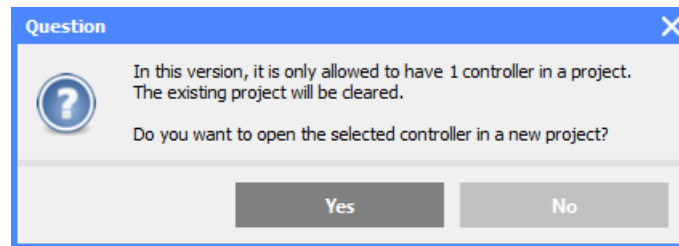

Fig. 6-2 Only one test controller per GI.bench project is possible
- On initial start up of *GI.bench*, a new project is automatically created with the default project name: **unnamed**. A project cannot be saved with the name “unnamed” however, any changes made to the configurations within the default project “unnamed” are automatically saved to that instance of the default project. If *GI.benchUI* is closed while the “unnamed” project is open, that instance of the “unnamed” project will appear when *GI.benchUI* is next opened. Any changes made to a default project immediately overwrite the previously unsaved “unnamed” project settings but are only cached within the *last project opened* memory of *GI.service*, i.e., changes to any configurations within a project called “unnamed” will only be stored until another project is opened within *GI.benchUI* (e.g., Fig. 6-2, page 122) or the next time *GI.service* restarts.